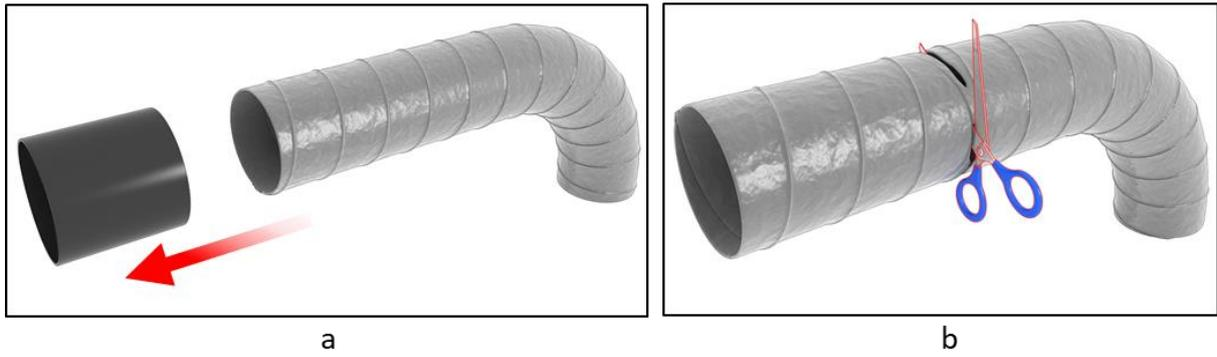

Figure 63. Remove black hose and cut the tube (a - b)
1. Remove the black hose from gray tube. See Figure 63 a. Cut with the help of a scissors the gray tube to the desired length, see Figure 63 b.